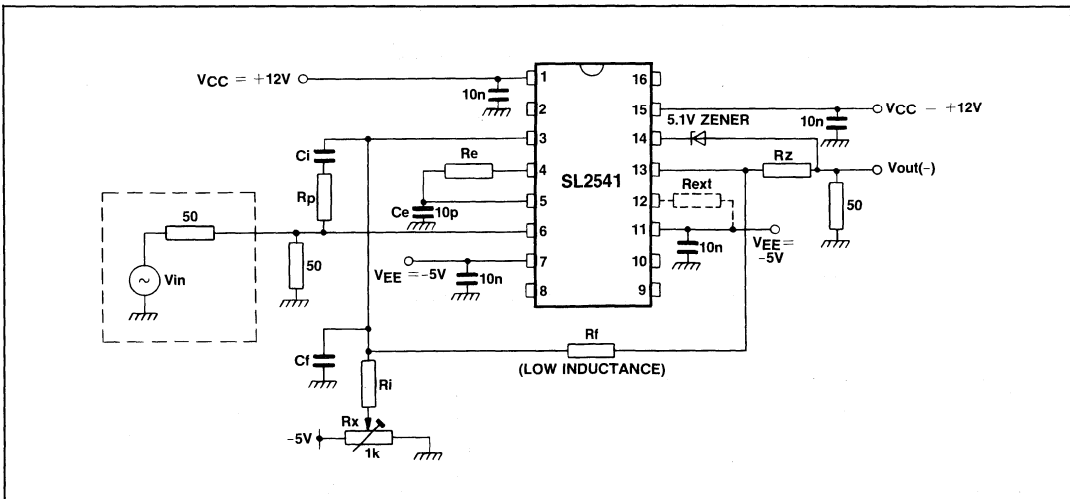

Fig.3 Test/applications circuit for SL2541 in non-inverting mode of operation
R_x is used to balance the offset voltage between the two inputs (see Fig.3).
C. A resistor of suitable value (R_z) in series with the Zener diode does reduce the high frequency peak and also adjusts the output voltage swing. (See Fig.3) e.g. a 56Ω resistor used for x20 gain frequency response.
Table 1 Recommended component values for the applications circuits of Figs. 3 and 4
TIME DOMAIN RESPONSE GRAPHS FOR THE TEST CIRCUIT OF FIG.3. NON-INVERTING, x2, LOAD 1.2kΩ